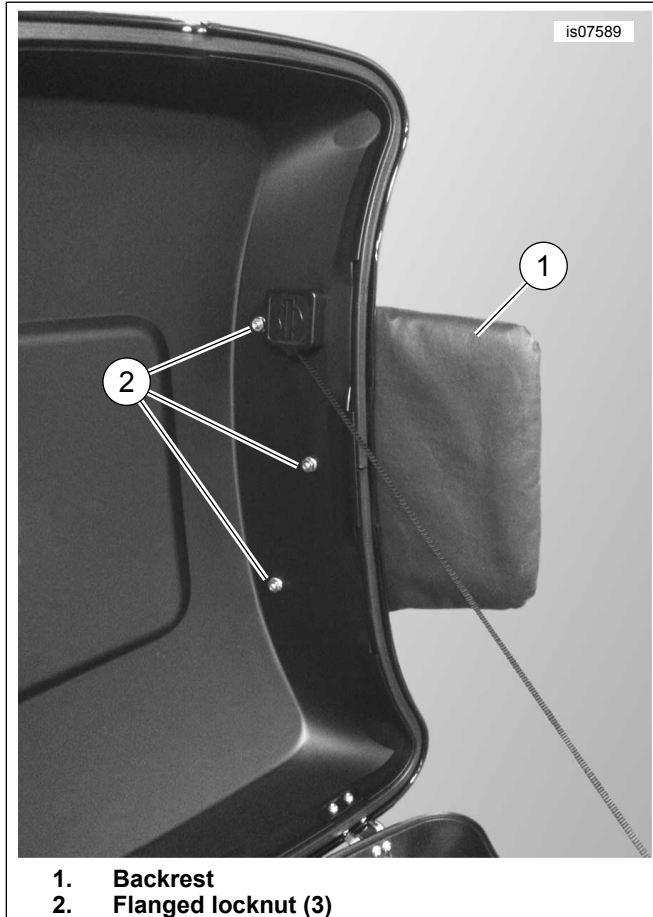

Figure 3. Mounted Backrest on Chopped Tour-Pak Lid
1. See Figure 3. Align the three studs on the backrest (1) with the drilled holes in the Tour-Pak lid. Fasten finger-tight with flanged locknuts (2) from the kit.